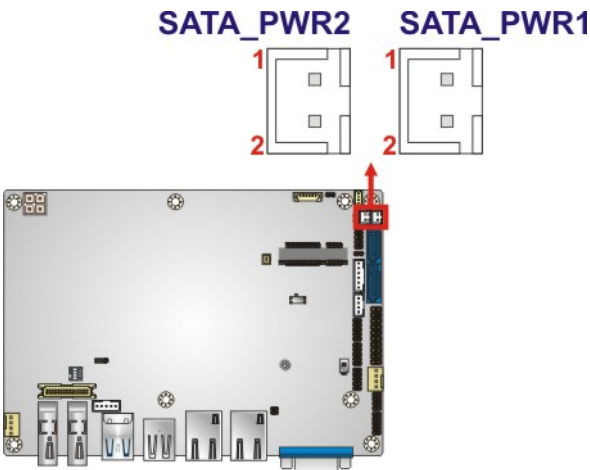

Figure 3-20: SATA Power Connector Locations
- CN Location: See Figure 3-20